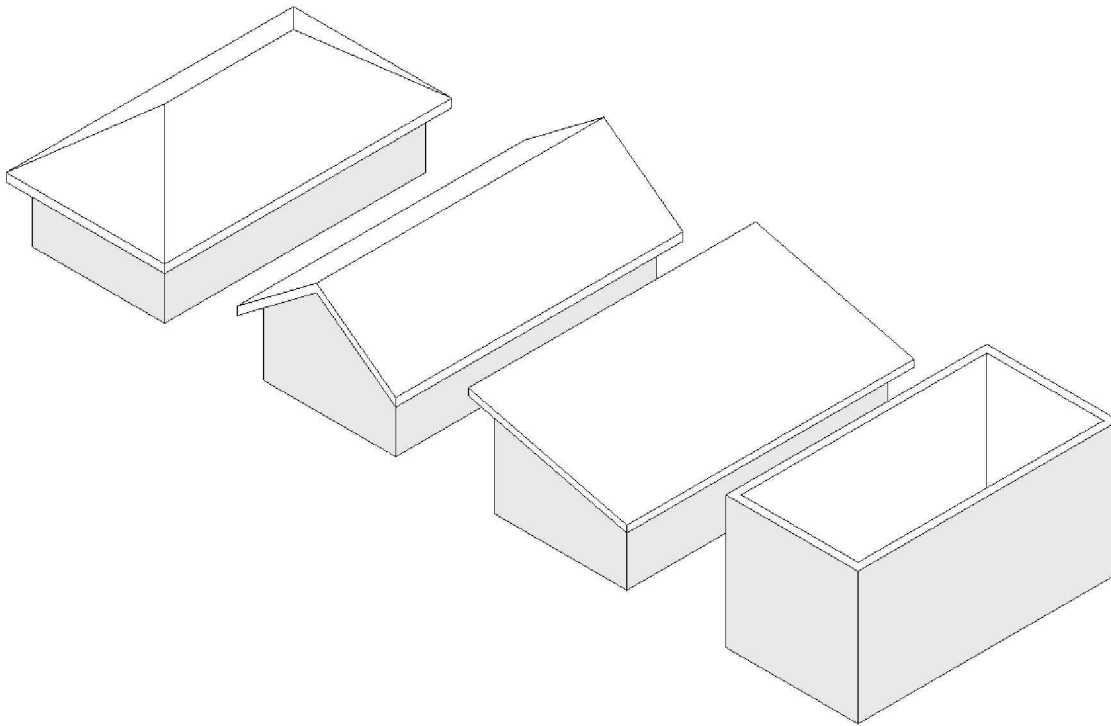

FIGURE 6-3.11 Default 3D view – shed roof
38. Switch to the *Default 3D* view (Figure 6-3.11).